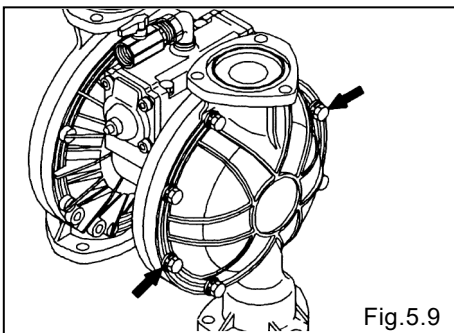

Fig.5.9
- Fix a double nut to one end of the center rod and take the diaphragm and center disk off the opposite end. [Fig.5.9] Be careful not to scratch or score the center rod.
- Remove the 16 retainer bolts (24 bolts for NDP-80) to take out the out-chambers. [Fig.5.9]